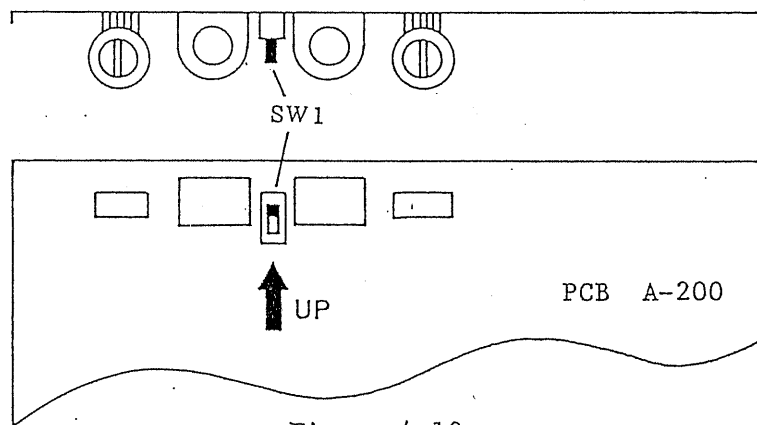

Figure 4-10
2. Disconnect the jumper from between terminals ① and ②.
3. Throw switch SW1 on PCB A-200 board to the upper position as shown in Figure 4-10. For location of the PCB, see Figure 6-1.
4. Connect electrolytic capacitor between terminals ① and ②.
5. Apply the external control voltage between terminals ① and ②. The potential of control common terminal ② is almost identical with that of output terminal (+). The external control voltage signal must be of an isolated type.